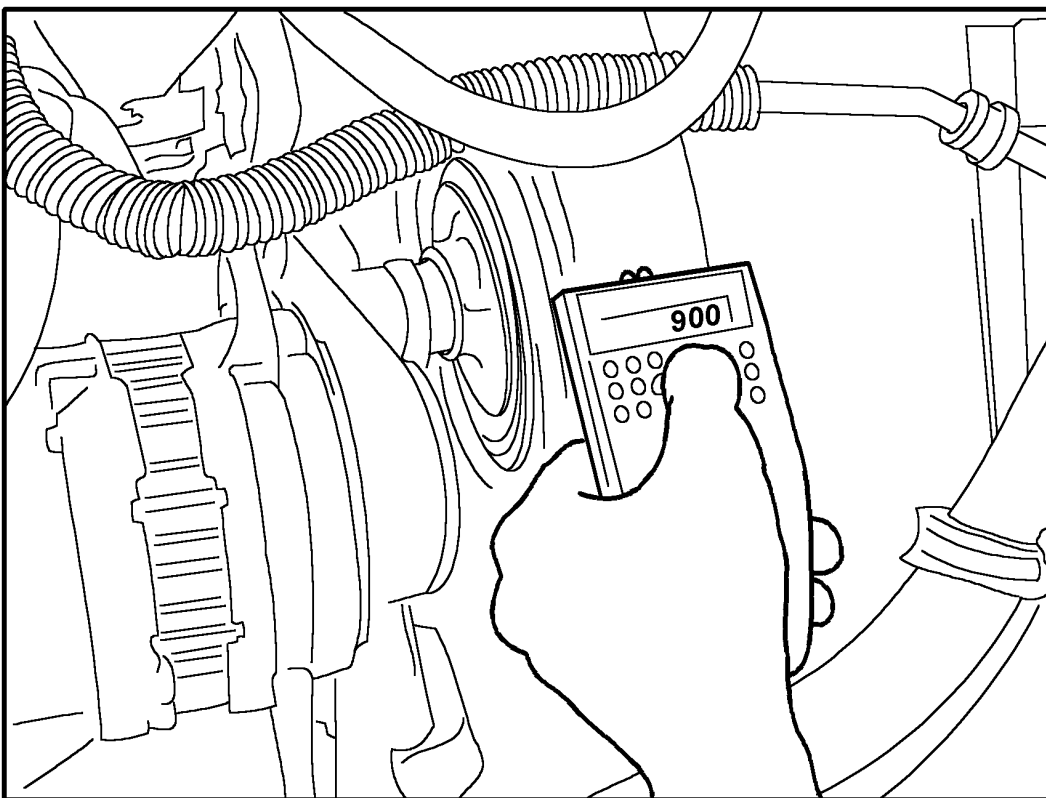

Figure 6 Measuring Fan Blade Speed with Digital Photo-Tachometer
12. Measure fan blade speed with the digital photo-tachometer (Figure 6).